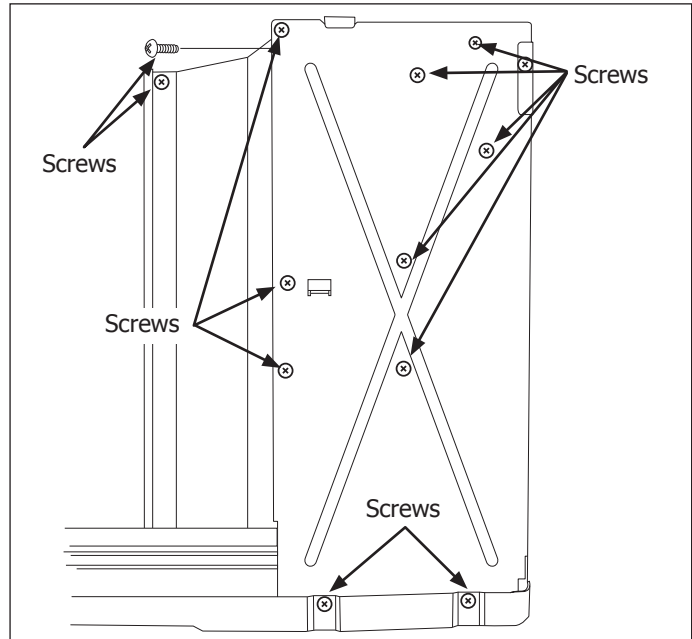

Figure 4-8. FAM Series Heater Equipped Model
5. Extract the screws on the left side of the bulkhead partition. (See Figure 4-8) This will include the screw securing terminal block to the left bulkhead partition.
6. Extract the screw from behind left bulkhead partition and the screw securing the left bulkhead partition to the top of the front partition. (See Figure 4-8)